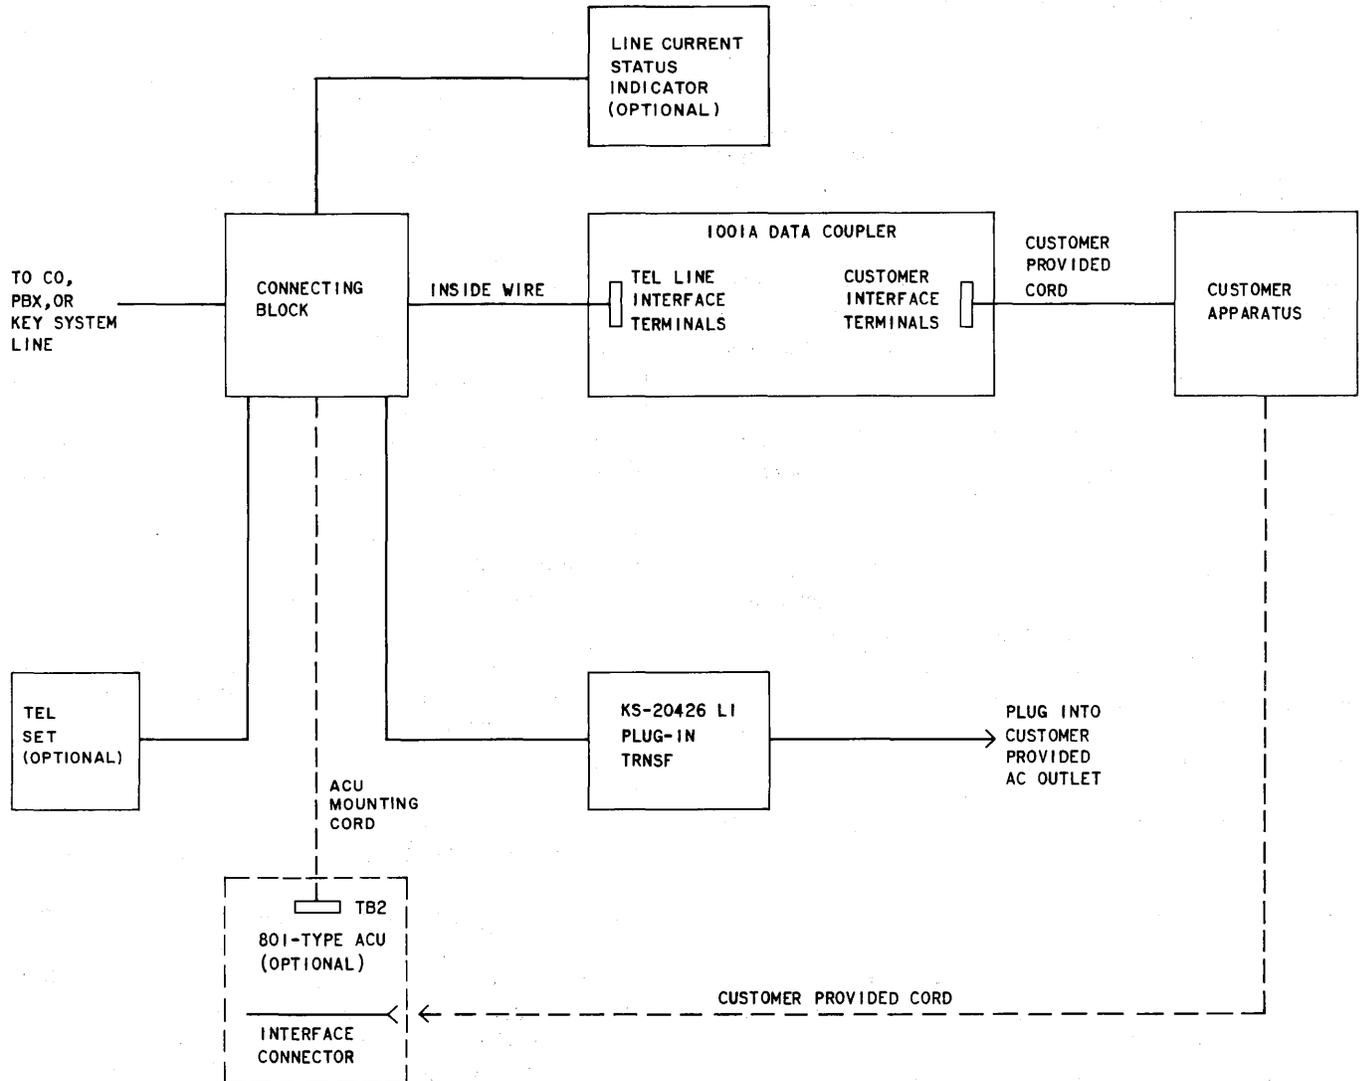

Fig. 14—Block Diagram of Typical 1001A Data Coupler Installation
- (1) For all analog modems, Type II requirements should be specified.
- (2) For all other modems, requirements based on speed of modem (same as for switched DATAPHONE service) should be specified.
- (3) If the type of modem is known to be similar to a Bell System DATAPHONE data set, use the requirements for that particular data set.
4.03 Installation of the coupler should comply with general practices to ensure an orderly station arrangement. Information relating to selection of type of connecting block and electrical code requirements is given in Section 590-010-200. See Fig. 14 for typical interconnection block diagram.